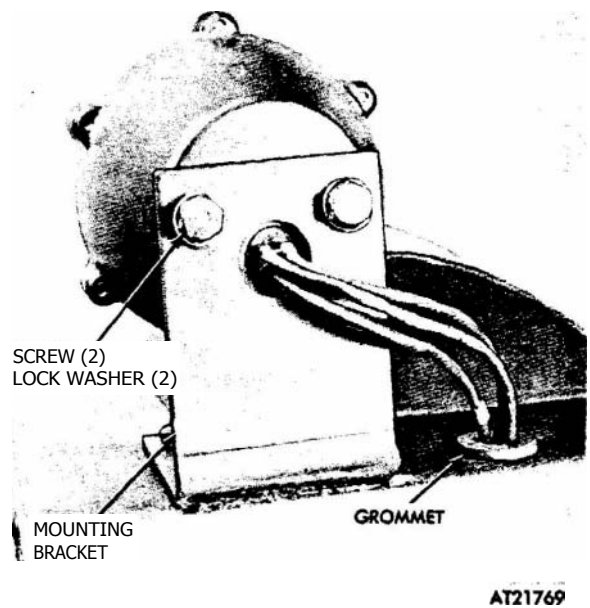

Figure 2-117. Turn, park, and blackout marker light.
(3) Remove light assembly from mounting bracket. by removing two screws and lock washers. Remove grommet and feed wires through hole (fig 2-117).
(1) Attach assembly to mounting bracket with two screws and lock washers. Feed wires through hole and insert grommet (fig 2-117).